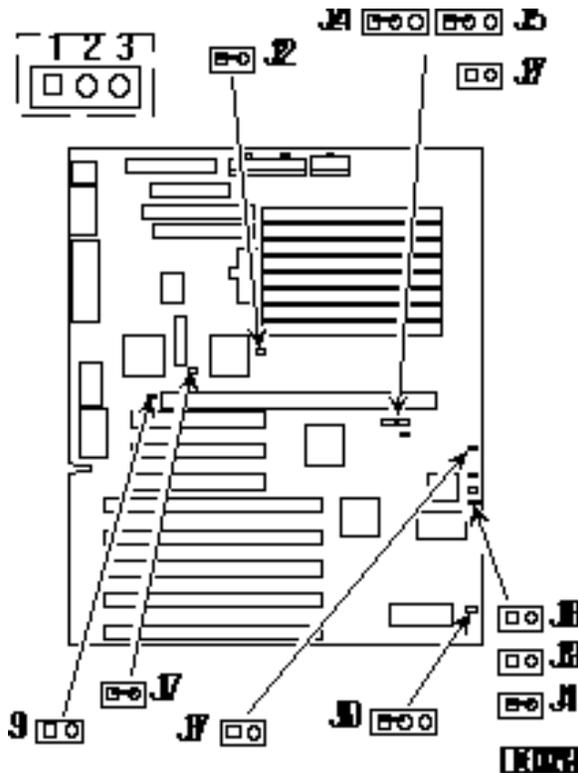

Figure 1. Main Logic Board Jumper Locations
2. Make sure that the following jumpers, shown in Figure 1, are set to disabled to prevent any unauthorized update to your BIOS:
1. Turn off the server and make sure that the Onboard VGA jumper (J17, Figure 1) is installed (enabled).
2. Install a jumper on J39 (Figure 1) to set it to Recovery mode.